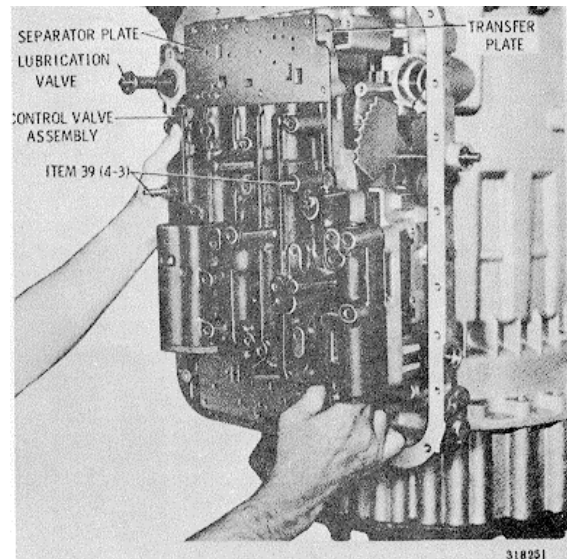

Fig. 5-17 Removing control valve assembly
(9) Remove the control valve body assembly, separator plate and transfer plate as a unit (fig. 5-17). Refer to paragraph 6-4 for rebuild of the control valve body assembly.